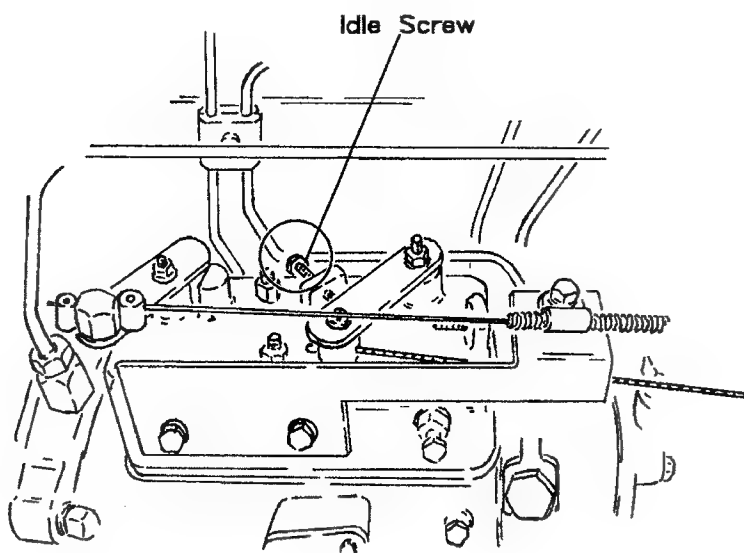

Figure 5-1
**WARNING:** MA-4030D mounted on a trailer may develop a "rough" running low idle. Normal idle speed is around 1300 RPM. When mounted on some trailers, the unit will interact with the trailer leaf springs and tires and cause it to run rough. To eliminate, adjust the idle screw on the injection pump (see Figure 5-1) by turning either clockwise or counterclockwise to raise or lower the low idle speed. Be sure, however, not to adjust the low idle below 1000 RPM as the generator will not operate properly.